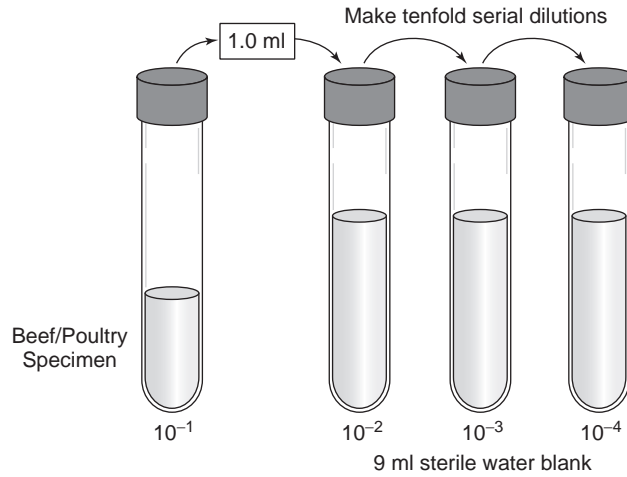

FIG. 24.1. Dilution of beef or poultry suspension.
2. A total of 12 tubes containing 9 ml of sterile water should be arranged so that 3 tubes are in sequence with each 1 ml suspension of specimen. Mix 1 ml of the normal handling beef suspension into the 9 ml of sterile water. You now have a 10^{-2} dilution. Remove 1 ml of the 10^{-2} dilution that has been mixed and transfer it into another 9 ml tube of sterile water. The second tube is mixed well to give a 10^{-3} dilution. Transfer 1 ml of this mixture into a third 9 ml of sterile water to prepare a 10^{-4} dilution (Fig. 24.1). Repeat the above procedure (Step 2) for the other three suspensions.